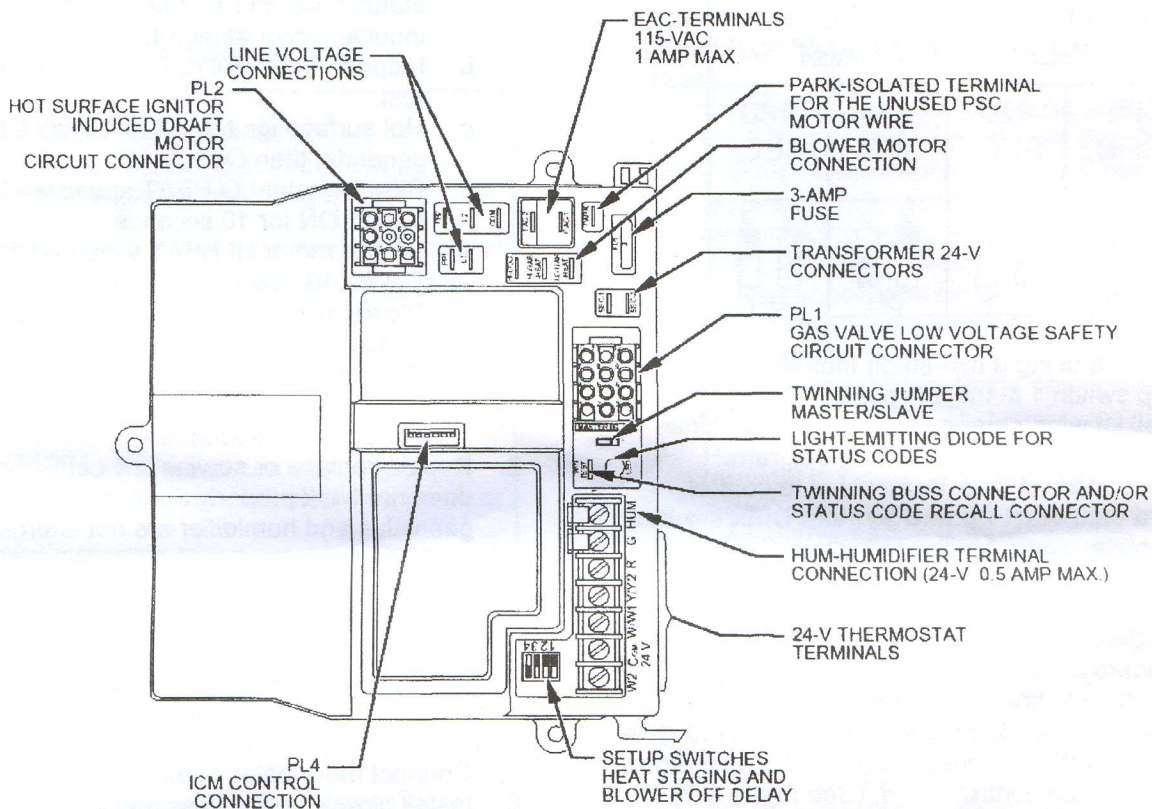

Figure 1 – Old Style Furnace Control Board
1. The variable speed motor harness 6-pin connector that plugged into PL4 on the old style furnace control board plugs into PL3 on the new style furnace control board, (See Fig. 1 & 2).
3. The 2 white wires previously connected to the ¼ inch HUM spade terminal of the old furnace control board need to be connected to the ¼ inch HUM spade terminal on the new furnace control board, (See Fig. 1 & 2).